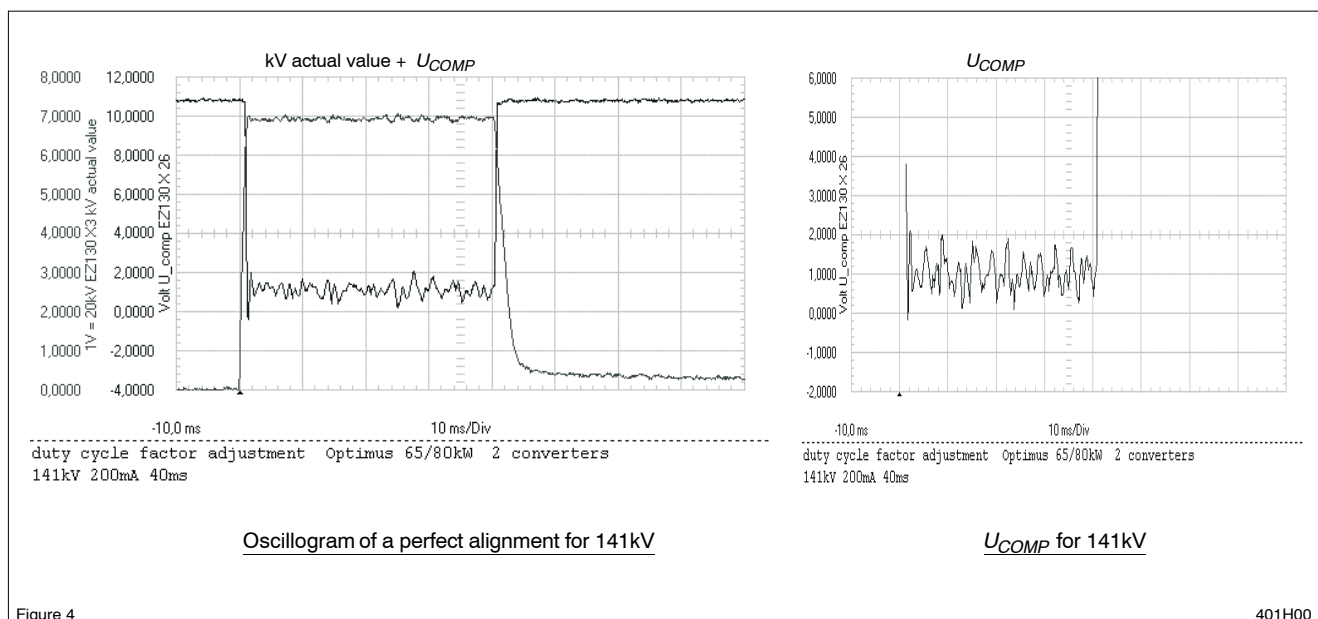

Figure 4
**Result:** In standby the  $U_{COMP}$  value is at about +11V, during exposure the mean value  $U_{COMP}$  must be as given in table 1 or 2, refer to figure 4:
- Read the mean value of  $U_{COMP}$  for 141kV (see scope figure 4 or 5), correct the factor duty cycle till  $U_{COMP}$  meets the required reference of +1V.
- Read the mean value of  $U_{COMP}$  for 125kV (in principle figure 4 or 5).